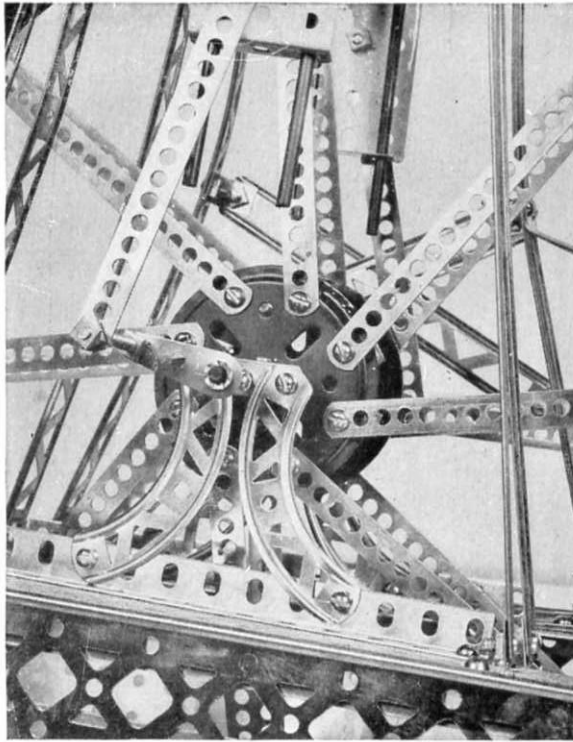

FIGURE 5
By referring to Figure 5 you will see an (AA)